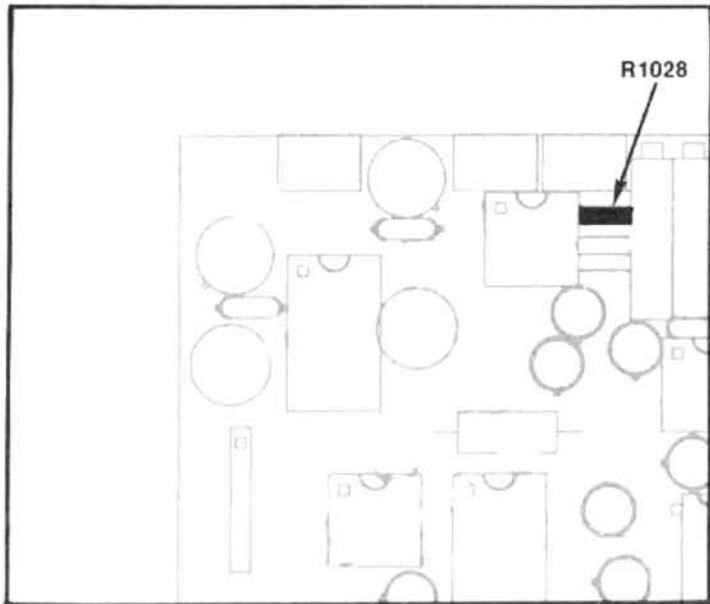

Figure 5-12. Location of select resistor R1028 on the 1st LO Driver.
(1) Disconnect the CAL OUT signal from 492 RF INPUT. Set FREQUENCY to 0.00 GHz, FREQ SPAN/DIV to MAX, and activate AUTO RESOLN. Switch VIEW A and VIEW B Off.
(2) Select a value for R1028, on the 1st LO Driver board (Figure 5-12), to set the frequency dot marker directly on the start spurious response.